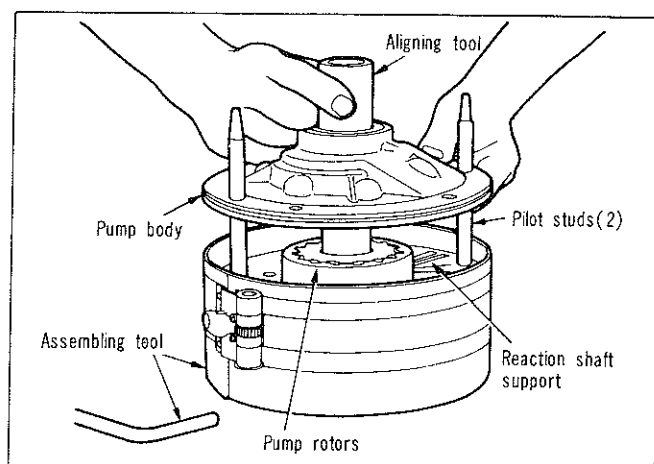

Fig. 47—Assembling pump and reaction shaft support
(1) Place reaction shaft support in assembling Tool E21C35H, with hub of support and tool resting on a smooth flat surface bench (Fig. 47). Screw two pilot studs, Tool E21C35B into threaded holes of reaction shaft support flange.
(2) Assemble and place rotors in centre of the support (Fig. 47).
(3) Lower pump body over the pilot studs, insert Tool E21C35E through pump body and engage pump inner rotor. Rotate the rotors with tool to enter rotors in pump body, then with pump body firm against reaction shaft support, tighten clamping tool securely.
(4) Invert pump and reaction shaft support assembly with clamping tool intact. Install support to pump body bolts and tighten to specification. Remove clamping tool, pilot studs and rotor alignment tool.
(5) Place a new oil seal in opening of pump housing (lip of seal facing inward). Using Tool E21C35F, drive seal into housing until tool bottoms.